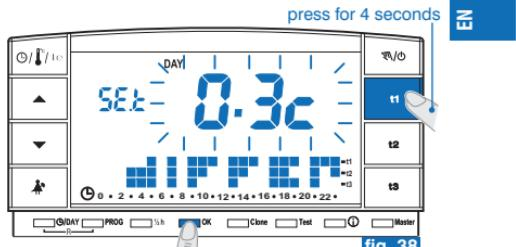

fig. 38
- Keep **t1** pressed until the set Differential value **blinks** (example in fig. 38 factory setting **0.3°C**).
- Press **OK** (fig. 38) to set the temperature correction (Offset). (fig. 39).